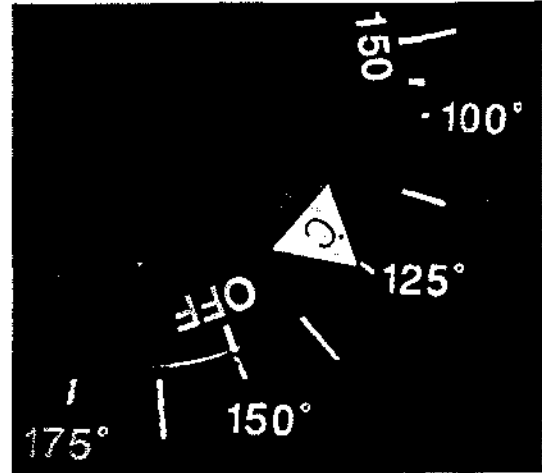

FIG. 3
7. To set a target temperature in degrees Centigrade, turn the knob in a clockwise direction until the white triangle with the °C in its center is pointing toward the desired number printed on the face of the control panel (the dial). (FIG 3)